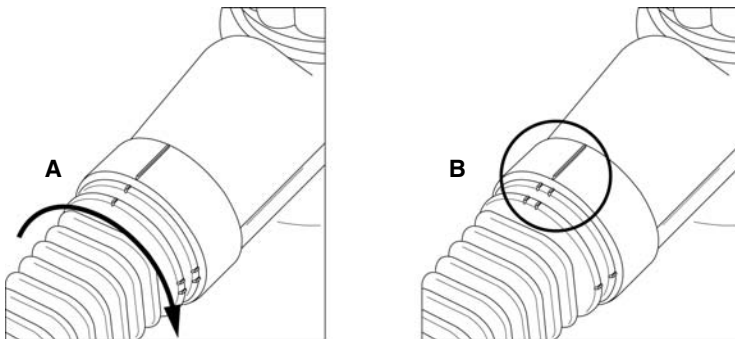

FIGURE 3
2. Rotate Jet Nozzle or Wide Nozzle in a clockwise direction as indicated below (FIGURE 3-A). Twist until you feel it “lock” into place and it will move no further. Note that single guide line on top of Steam Nozzle aligns between dual guide lines on Jet Nozzle / Wide Nozzle (FIGURE 3-B).